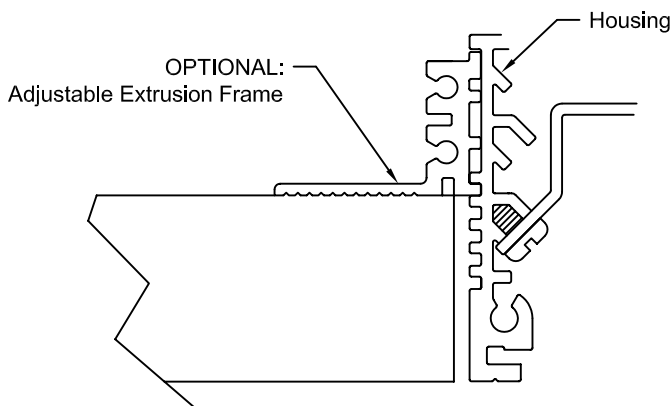

Figure 4
2. Adjust elevation of Housing so that Adjustable Extrusion Frame (set to 5/8" thickness at factory) will sit on top of installed Drywall and bottom of Housing walls match bottom of Drywall surface. See Fig. 4.
3. Install Drywall to edge of Housing. See Fig. 4.